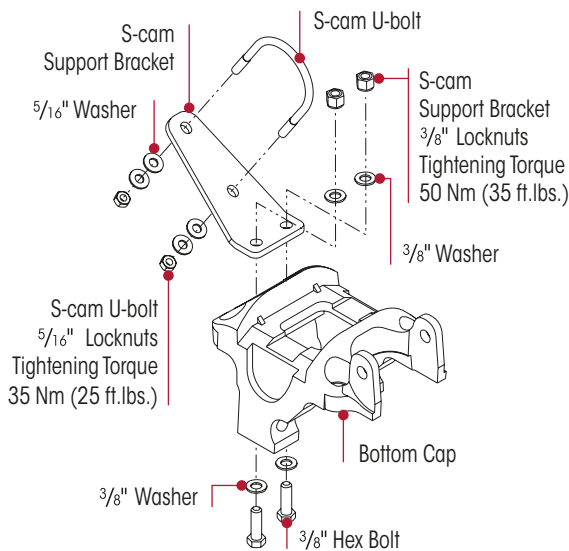

Figure 118: Install & Tighten S-Cam Fasteners
14. Install the S-cam support bracket and fasteners (if equipped). Tighten the 3/8" locknuts to 50 Nm torque. Tighten the 5/16" locknuts to 35 Nm torque. Refer Figure 118.